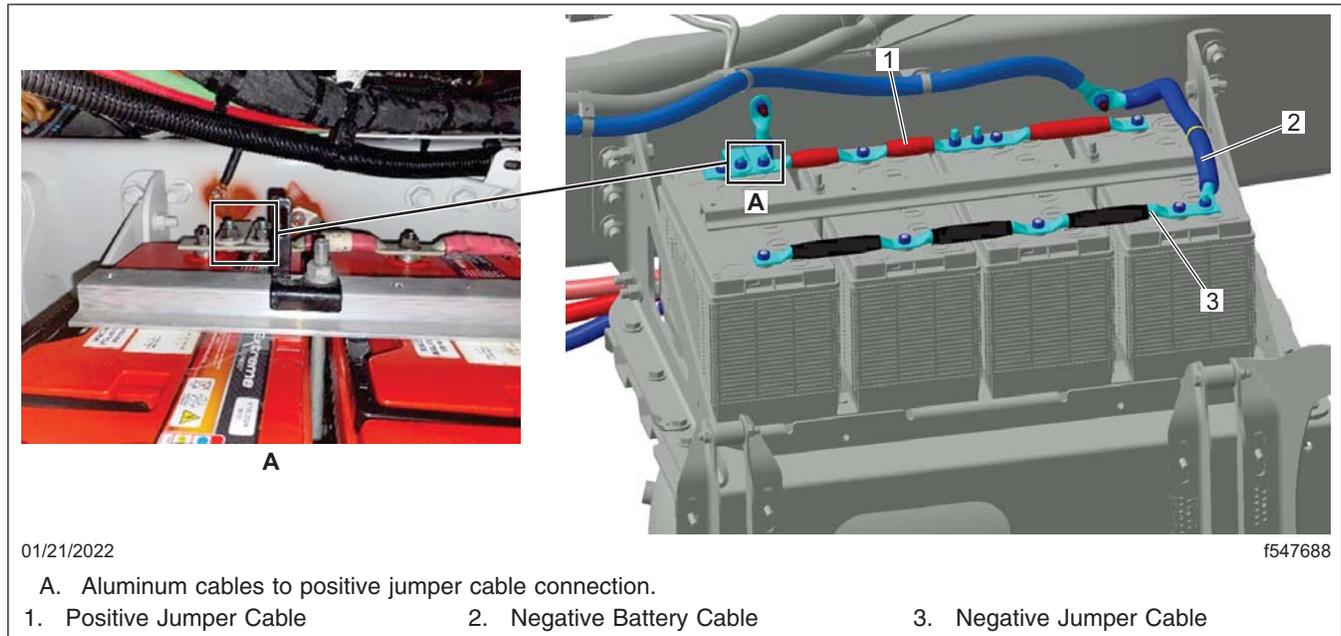

Fig. 17, Aluminum Cables to Positive Jumper Connection
5. Remove the two nuts that attach the two positive aluminum battery cables to the positive battery jumper cable, then disconnect the positive aluminum battery cables from the positive battery jumper cable. See Fig. 17.